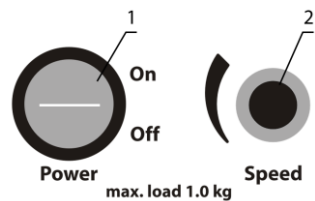

Figure 1. Model 3D, control panel
- 5.3. Switch on the **Power** switch (fig. 1/1).
- 5.4. Use the speed control knob (fig. 1/2) to adjust the shaking speed to the required setting.